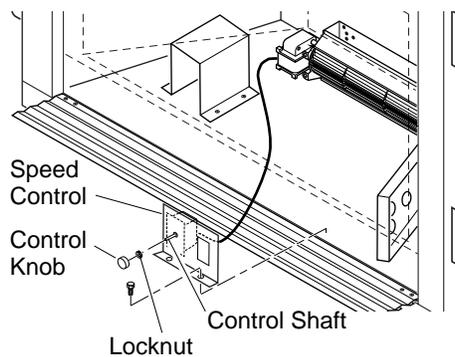

**Figure 31 - Locating Thermal Switch Against Back of Firebox**
*Note:* For CDA3620T, make sure the thermal switch is comfortably under the back of the firebox as shown in Figure 31, page 17.